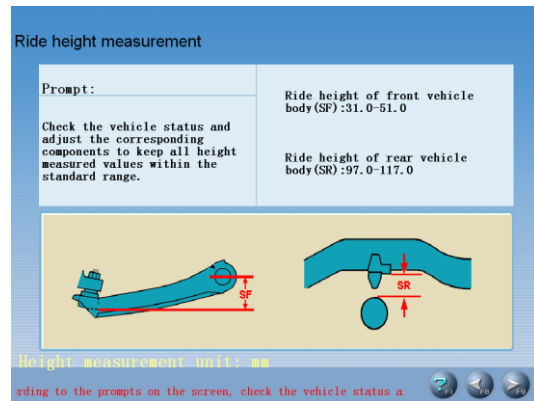

Fig.4.8
3. When some special vehicle models (such as BMW 3 series) are selected, the screen will pop up an interface of [Ride Height Measurement] as shown in Fig.4.8. This interface provides an operating platform for ride height measurement system, in order to check if the ride height meets the design requirements of OEM.